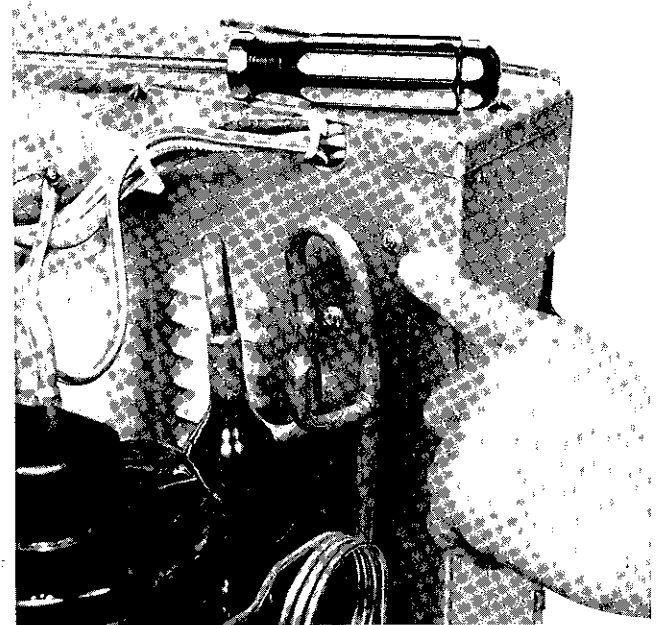

Fig 8 — Control Box Screws
- 7 **Control Box** — Control Box is secured with 2 screws See Fig 8
- j Remove control box. See Fig. 8. Refer to Control Box removal directions.